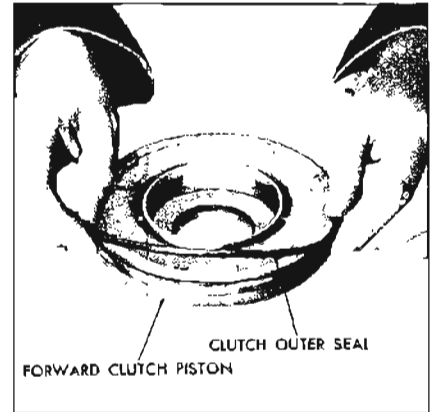

Figure 5-607
8. Remove the inner and outer clutch piston seals. See Figure 5-607.